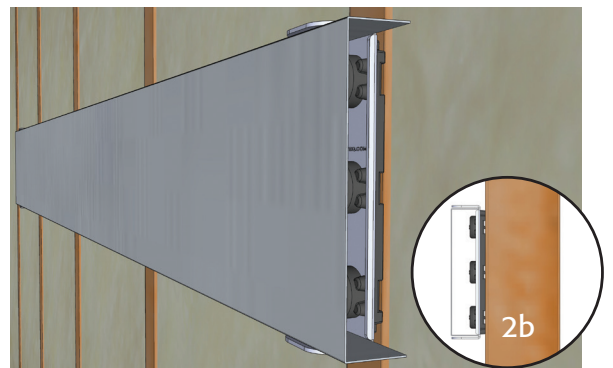

Figure 2
4. Insert metal track into **GenieClip Mount** (Figure 2). Line up front face of track with end of tabs on the **GenieClip Mount** (**Fig.2b**).